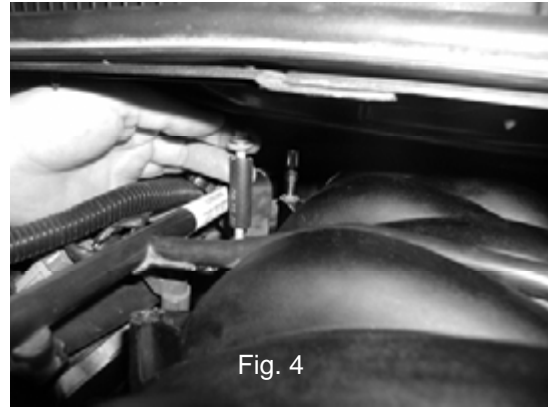

Fig. 4
- 7) Loosen all 10 intake manifold bolts (8mm hex). The five rear most bolts cannot be removed in vehicle (Camaro, Firebird). To remove manifold these must be partially lifted out of the way. A simple device (Bond sleeve) can be easily made to temporarily hold the bolts up (see fig 4). These are made with a 1" piece of 1/4" rubber hose, slit lengthwise.